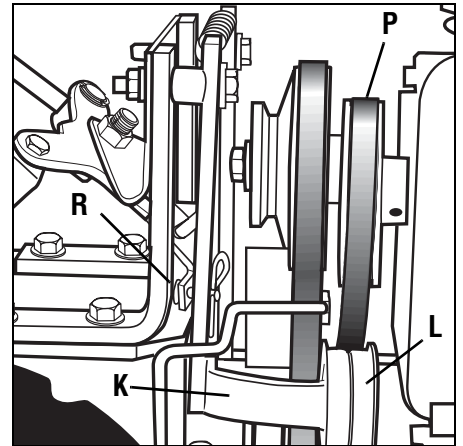

Figure 5-13
2. Stand at the front of the tiller and use your left hand to push the reverse idler arm (K, Figure 5-13) inward as far as possible (the reverse idler pulley [L] is attached to the reverse idler arm).
3. The reverse idler pulley (L, Figure 5-13) regulates the tension that is applied to the reverse drive belt (P). The following adjustment will allow the reverse idler pulley to apply more tension to a loose belt.
5. Slip the reverse belt (P, Figure 5-13) off the engine-driven reverse (upper) pulley.
6. On the **right** side of the unit (as viewed from operator's position), remove the hairpin cotter from the clevis pin (R, Figure 5-13) that connects the reverse idler arm (K) to the reverse adjustable link. Push inward on the reverse idler arm (K) and remove the clevis pin (R).
8. Reinstall the reverse belt (P, Figure 5-13) on the reverse (upper) pulley, making sure
the belt is located to the inside of the reverse idler pulley (L, Figure 5-13).